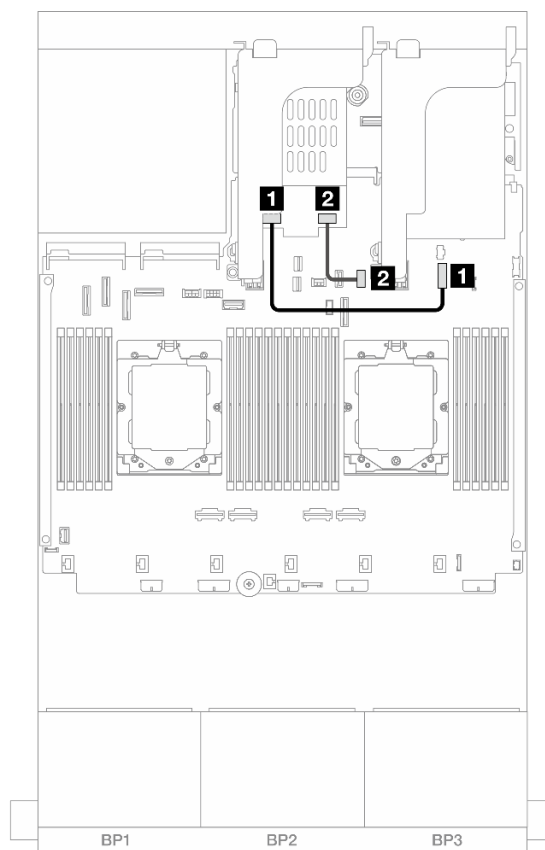

Figure 321. SATA cable routing
- Figure 321 “SATA cable routing” on page 369